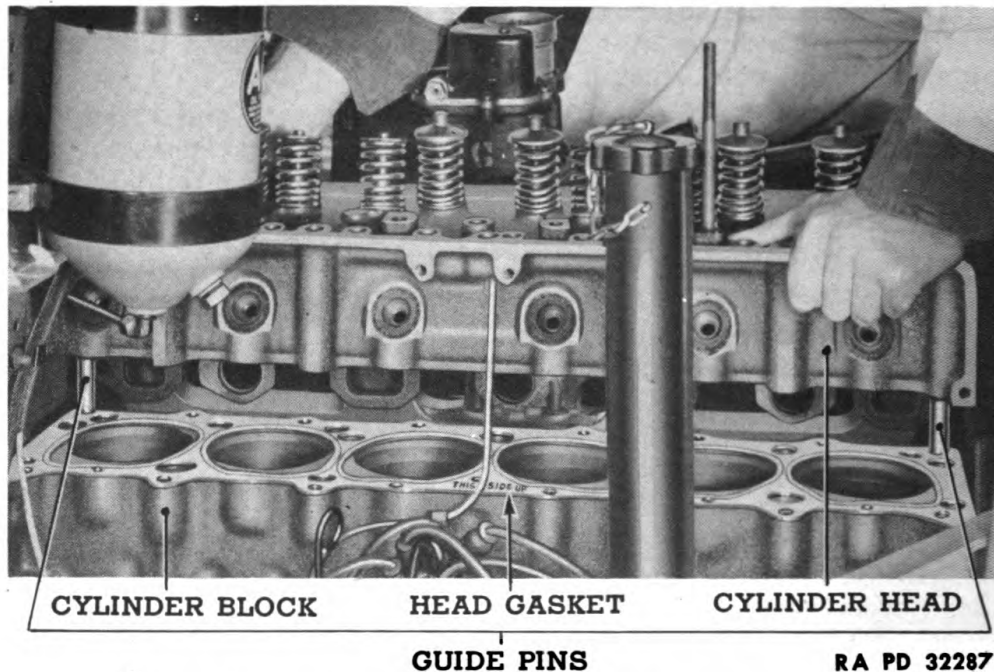

Figure 23—Cylinder Head Installation
a. **Install Cylinder Head** (fig. 23). Place the head gasket on the block with the markings "THIS SIDE UP," up and on the camshaft side of the engine. Install two cylinder head guide pins in the block, one in the front, and the other in the rear holes on the manifold side, to maintain alinement of the gasket while the head is being set in place. Install the cylinder head and tighten the 15 head bolts finger-tight. Then use a torque wrench and tighten all head bolts to between 75 and 80 foot-pounds, following the sequence shown in figure 24. It is important to follow this sequence when tightening head bolts to prevent water leaks into the cylinders, or compression leaks between cylinders, or into the water jacket.